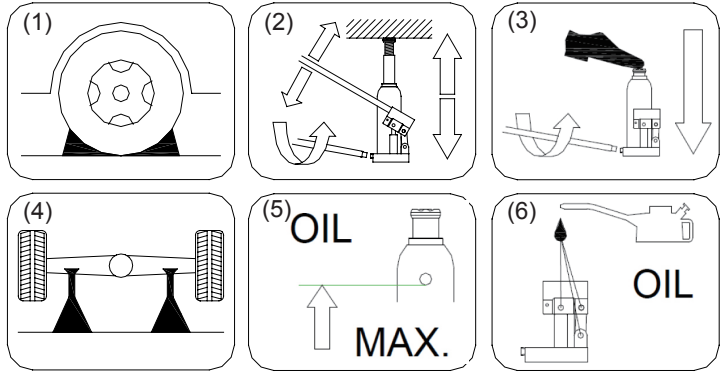
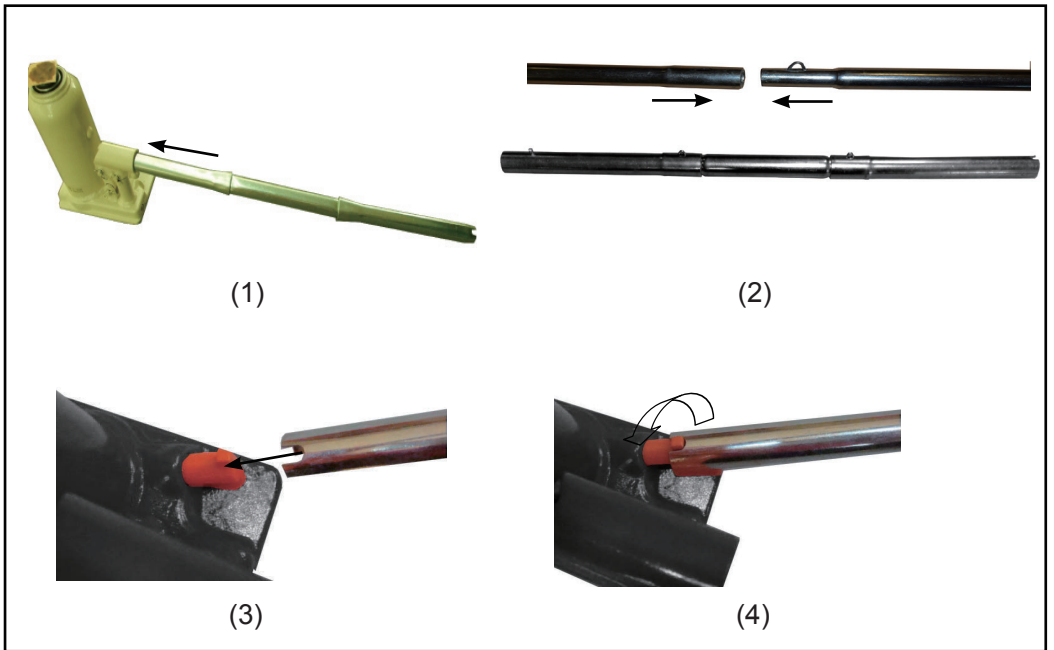

Fig. 03
Fig. 02
- Assemble the two or three parts handle. (Fig.02(2)).
- Now place the lever rod to the lifting device and place the lever rod into the support (Fig.02(1)).
- Use the lever rod to bring the lifting device to the desired height (Fig.03 (2)). Make sure that the hydraulic valve is closed. For this purpose it is necessary to fasten the lever rod clockwise.
- In order to lower the load turn the lever rod slowly anticlockwise (Fig.02(3&4) & Fig.03(3)).
⚠ WARNING Never use the lifting jack in order to leave the car lifted. Always use chassis stands (Fig.03(4)).
⚠ WARNING Make sure that no person stays in the vehicle that will be lifted. Turn off the engine and put on the handbrakes of the vehicle. Use wedges to prevent the vehicle from moving (Fig.03(1)). Do not get into the vehicle and do not turn the engine on.
- Den dreiteiligen Griff montieren. (Abb. 02 (2)).
- Jetzt die Hebelstange an der Hebevorrichtung anbringen und die Hebelstange in die Halterung setzen (Abb. 02 (1)).